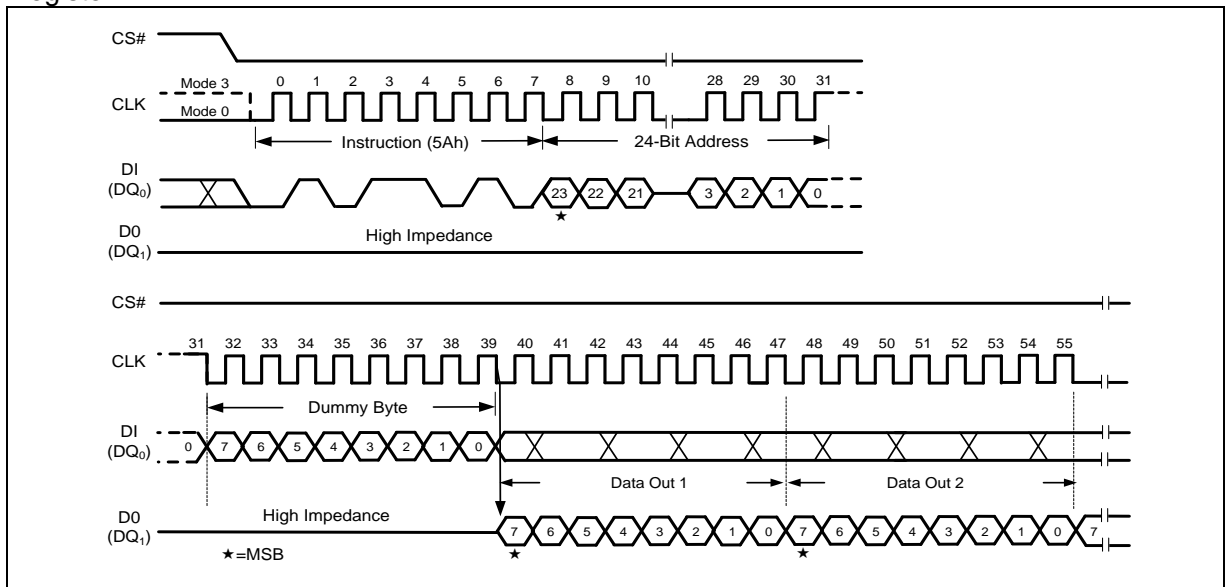

Figure 55 Read SFDP Register Instruction
The Read SFDP instruction is initiated by driving the /CS pin low and shifting the instruction code “5Ah” followed by a 24-bit address (A23-A0)(1) into the DI pin. Eight “dummy” clocks are also required before the SFDP register contents are shifted out on the falling edge of the 40th CLK with most significant bit (MSB) first as shown in Figure 55. For SFDP register values and descriptions, refer to the following SFDP Definition table.